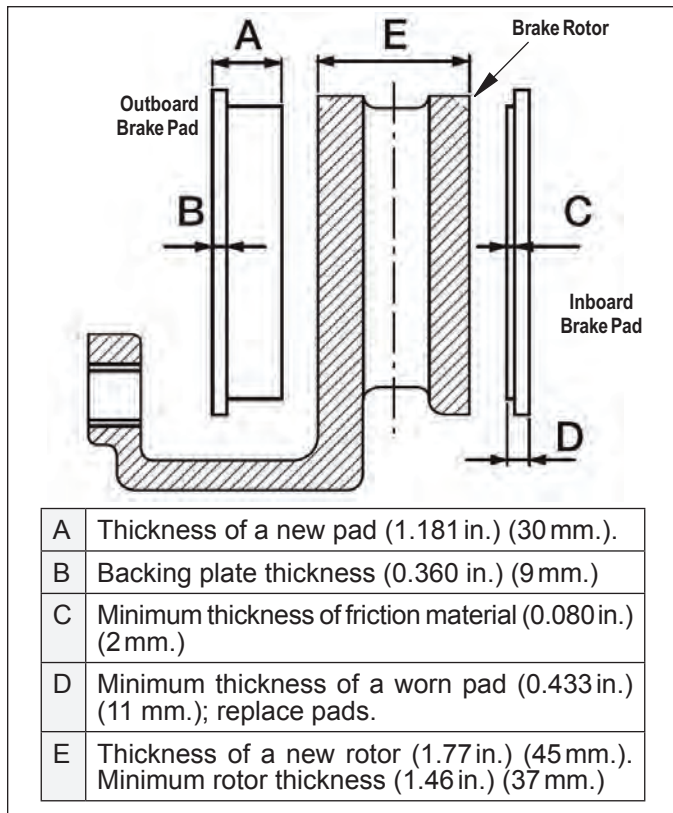

FIGURE 22 - PAD AND ROTOR DIMENSIONS
See *Figure 22* for initial brake pad and rotor dimensions, as well as minimum acceptable dimensions.
4.3.1 See *Figure 22*. If the thickness of the friction material — dimension “C” — is less than 0.080 in. (2 mm.), the pads must be replaced.
4.4.1 Measure the thickness of the brake rotor at the thinnest point (Dimension “E” in Figure 22). Avoid measuring near the edge of the rotor as minor burrs may result in inaccurate measurement. Replace the rotor when the minimum thickness of 1.46 in. (37 mm.) is reached.